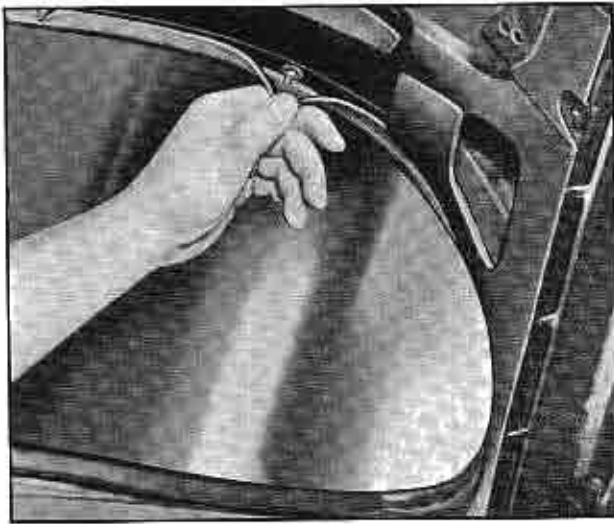

Fig. 3-69 Removal of Back Window Reveal Moldings
5. Turn back inner lip of rubber channel, Fig. 3-69, and remove back window side reveal molding attaching nuts and washers.